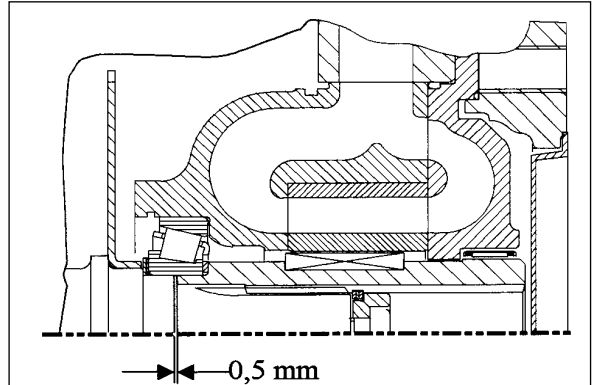
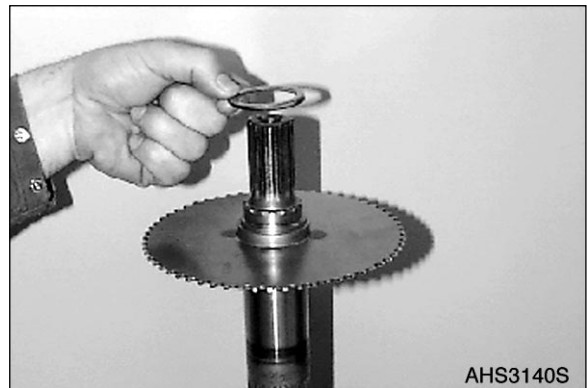

Figure 362
Figure 366
3. Adjust Gap Dimension = 0.50 mm (0.0197 in) (Driver/ Input shaft) (Figure 362 - Figure 366).